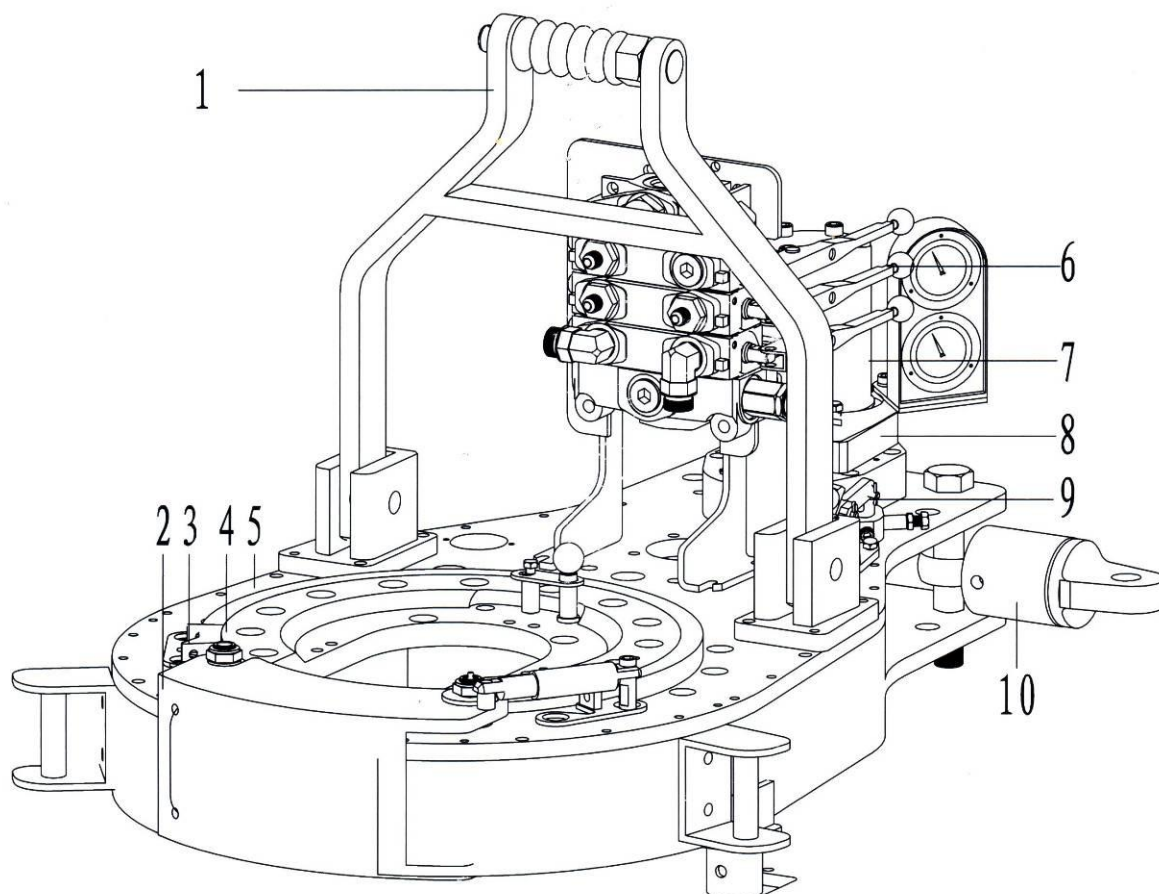
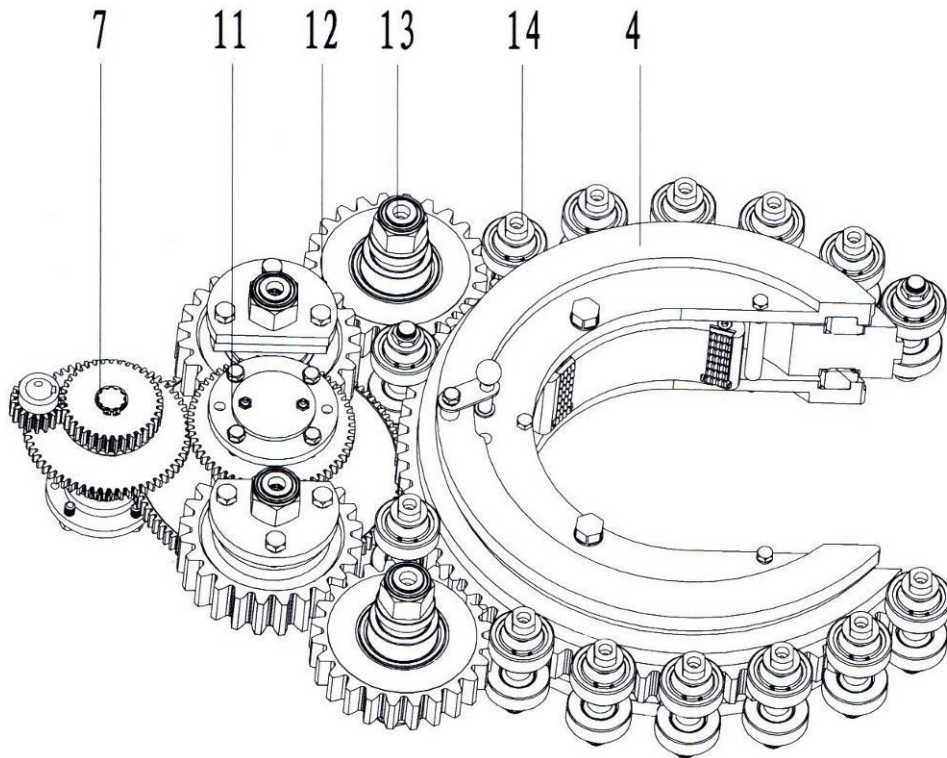

Fig. 2
Fig. 3
7.1 KHT7625 Master tong assembly (Fig.2, Fig.3, Table.2)